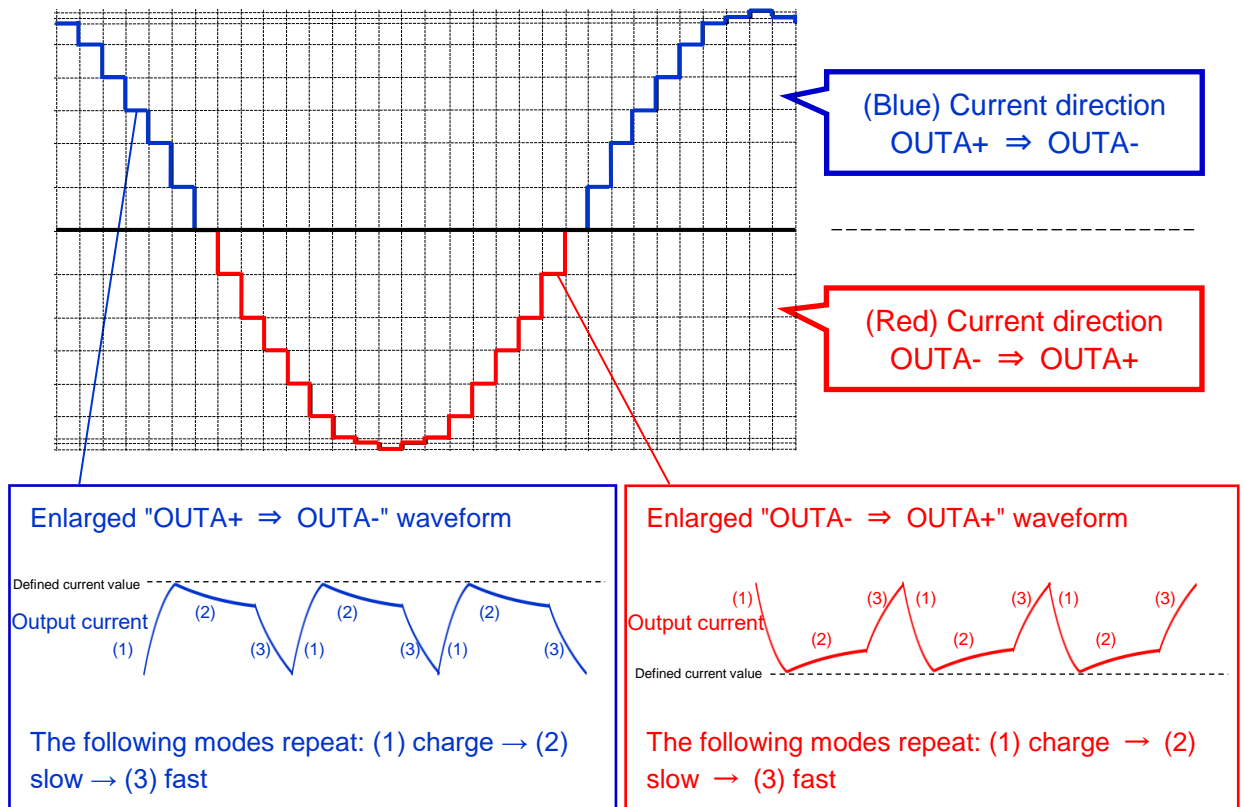

Figure 2. Definition of current direction: Example 2W1-2-phase excitation, phase A current waveform
- As shown in Figure 2, two types of operation occur depending on current direction.